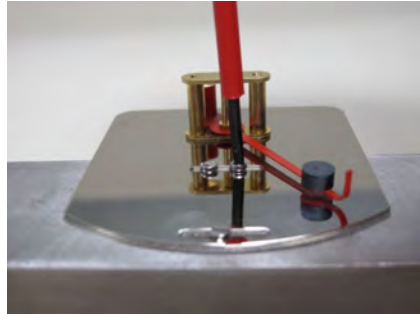

Fig. 60
- 12.** ▶ Position the display base plate onto the device body and lightly tighten the fixing screws so that the base plate can still be moved (Fig. 60). Make sure that the countersunk head screw is used for the long groove (pointer end) and the cylinder head bolts are used to secure the base plate middle.